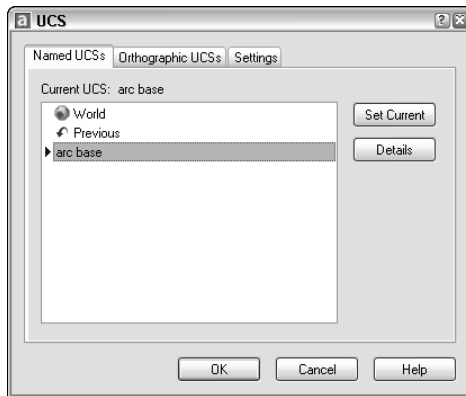

Figure 8-23: Use the UCS dialog box to save and restore a UCS.
2. Choose Tools ⇨ Named UCS. AutoCAD opens the UCS dialog box with the Named UCSs tab on top, as shown in Figure 8-23. If your current UCS is not named, it is listed as Unnamed, and highlighted. Previously named UCSs are also listed. You can also use this dialog box to return to the previous UCS or the World Coordinate System (WCS).